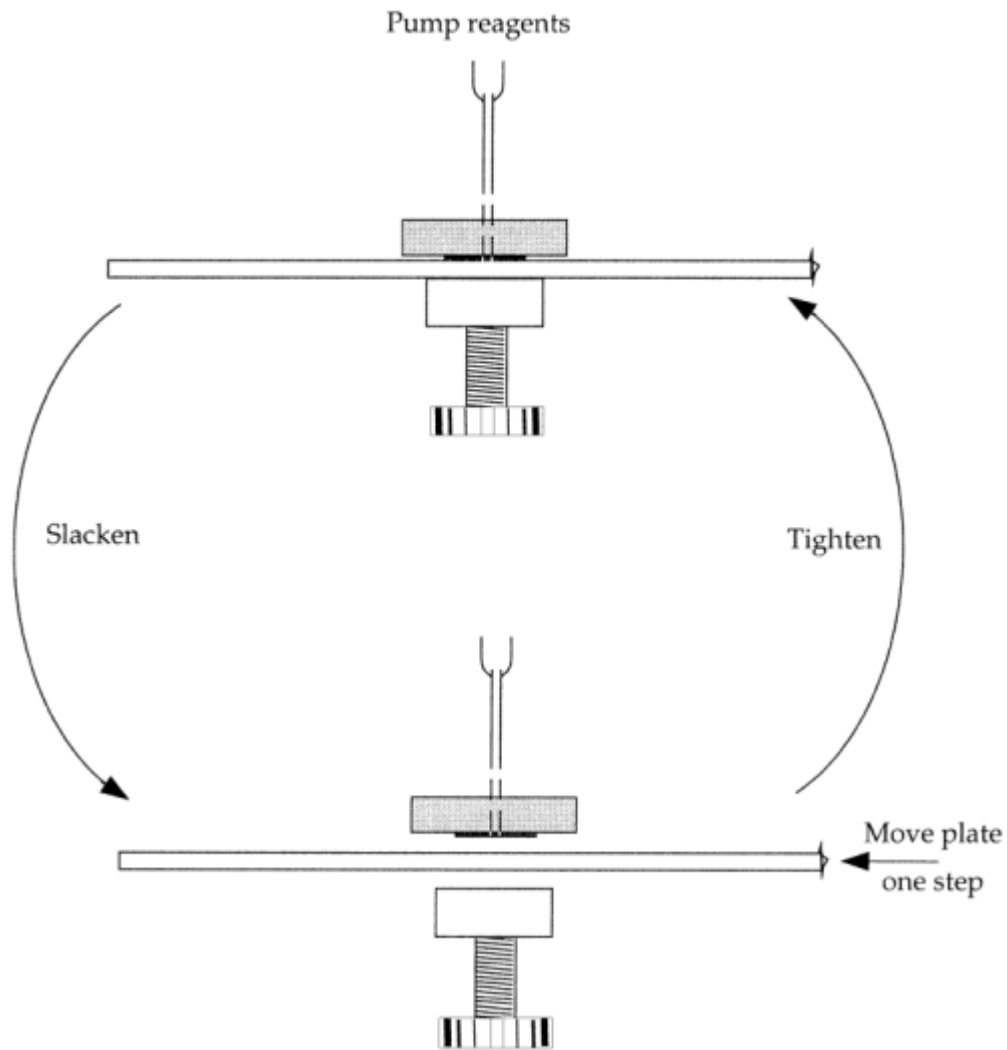

Figure 1
- 4 Tighten the plate against the mask with the pressure clamp to produce a seal (see Figure 1).